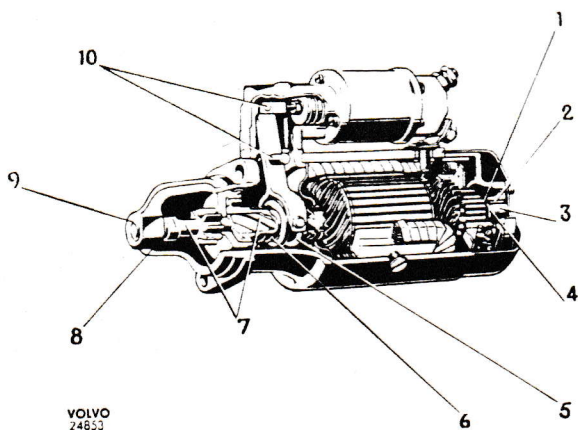

Fig. 66. Lubricating scheme for starter motor
2. Fit the starter pinion on the rotor shaft and place on washers and circlip as shown in Fig. 40. Lubricate the rotor shaft in accordance with the instructions for Fig. 66.
When assembling, lubricate the starter motor according to the instructions given for Fig. 66.